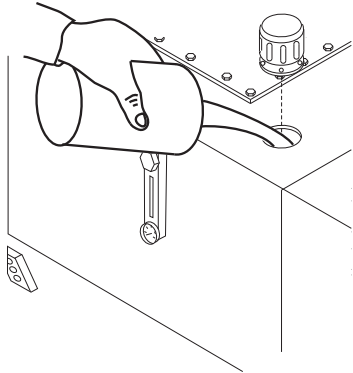

Figure 13. Hydraulic Oil Filler Hole
- If the hydraulic oil level is low, remove the cap just above the oil level sight glass (Figure 13) and add the correct amount of hydraulic oil to bring the hydraulic oil level to a normal safe operating level. (Use Shell oil Tellus 68 or Mobil oil DFE26).